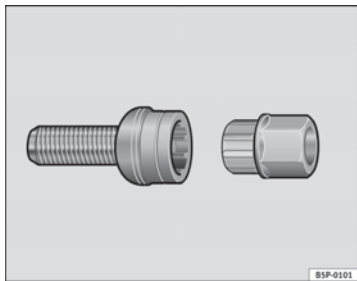

Fig. 128 Anti-theft wheel bolt
- Insert the adapter onto the wheel bolt and push it on as far as it will go ⇒ fig. 128.